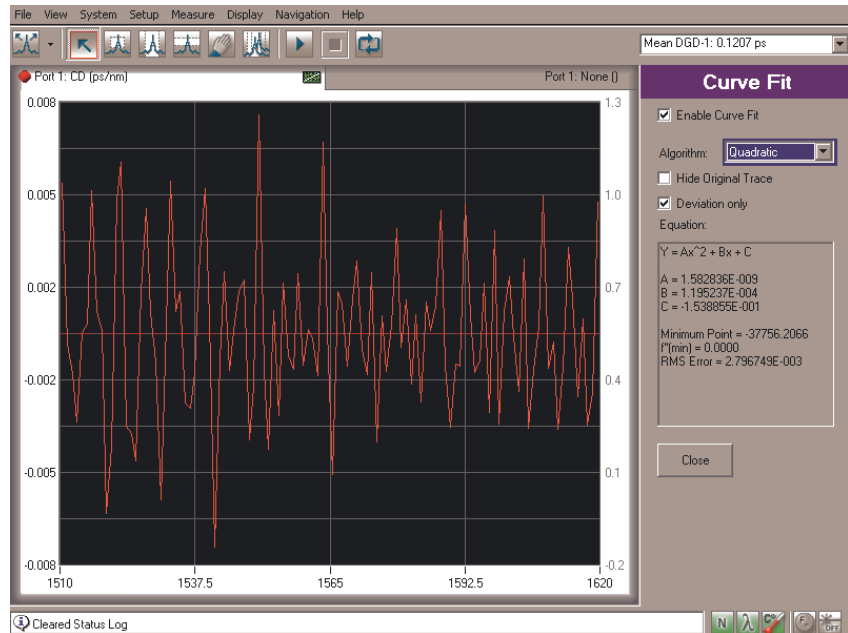

Figure 8 Sample CD trace for the MXF fiber
- b Check the CD curve. The noise level can again be displayed using Curve Fit and Deviation only settings, as in Fig. 8. A Quadratic curve should make a good fit, but if it does not in the measured wavelength range, then a Sellmeier fit can be used. The deviation represents the noise level and should be within ± 0.07 ps/nm.